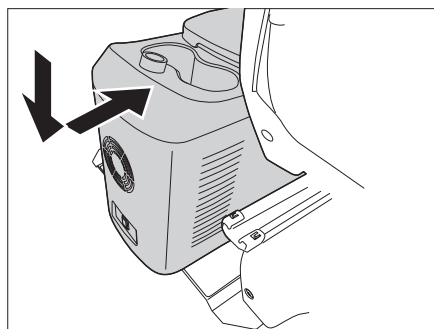
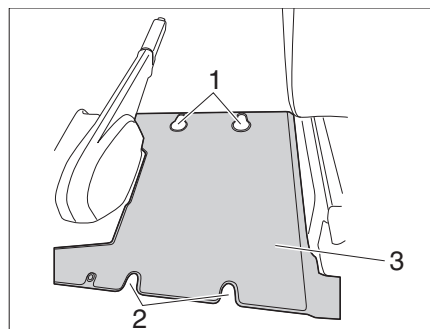

Fig. 90 Installing the cooler
Fig. 91 Retaining plate
- Place the feet of the cooler into the drilled holes (Fig. 91,1 and 2) of the retaining plate (Fig. 91,3) and slide the cooler forwards until it latches in (Fig. 90).
- ▷ Connect the cooler only to the 12 V socket (Fig. 90,1). All other sockets are supplied by the vehicle battery.